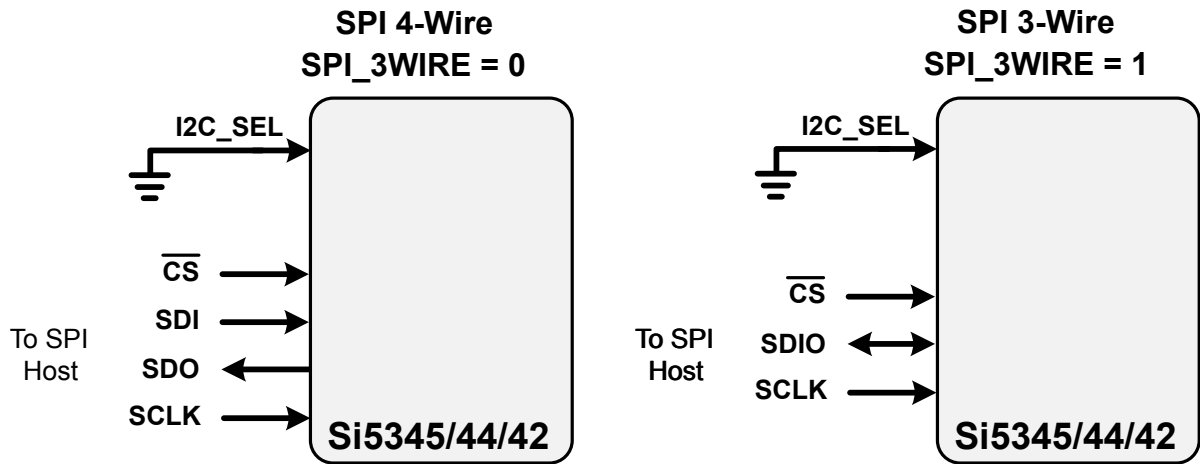

Figure 9.6. SPI Interface Connections
Data is transferred MSB first in 8-bit words as specified by the I²C specification. A write command consists of a 7-bit device (slave) address + a write bit, an 8-bit register address, and 8 bits of data as shown in Figure 9.6 SPI Interface Connections on page 53. A write burst operation is also shown where subsequent data words are written using an auto-incremented address.
When in SPI mode, the serial interface operates in 4-wire or 3-wire depending on the state of the SPI_3WIRE configuration bit. The 4-wire interface consists of a clock input (SCLK), a chip select input (CS), serial data input (SDI), and serial data output (SDO). The 3-wire interface combines the SDI and SDO signals into a single bidirectional data pin (SDIO). Both 4-wire and 3-wire interface connections are shown in Figure 9.6 SPI Interface Connections on page 53.